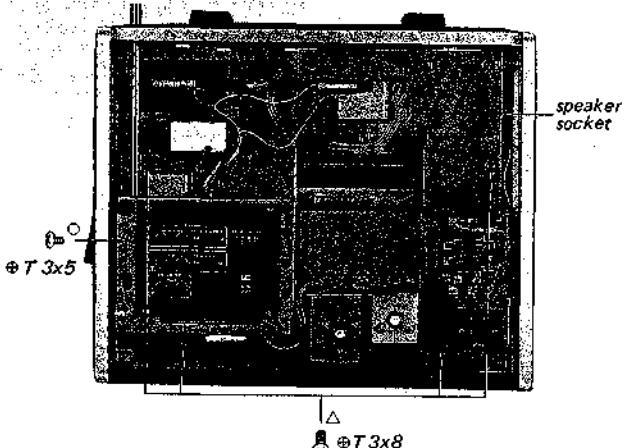

Fig. 2-3
5. Remove the four screws marked Δ which fasten the front panel to the chassis in Fig. 2-3.
7. Remove the speaker socket as shown in Fig. 2-3.